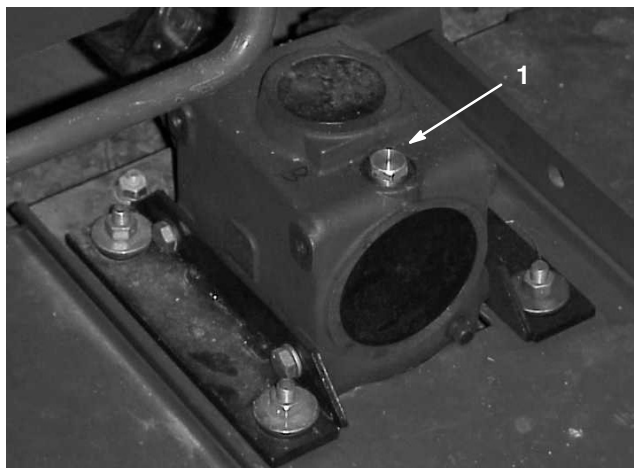

Figure 20
2. Position the machine and cutting unit on a level surface and lower the cutting unit. Remove the dipstick/fill plug from the top of the gear box (Fig. 20) and make sure that the lubricant is between the marks on the dipstick. If the lubricant level is low, add SAE 80–90 wt. gear lube until the level is between the marks.